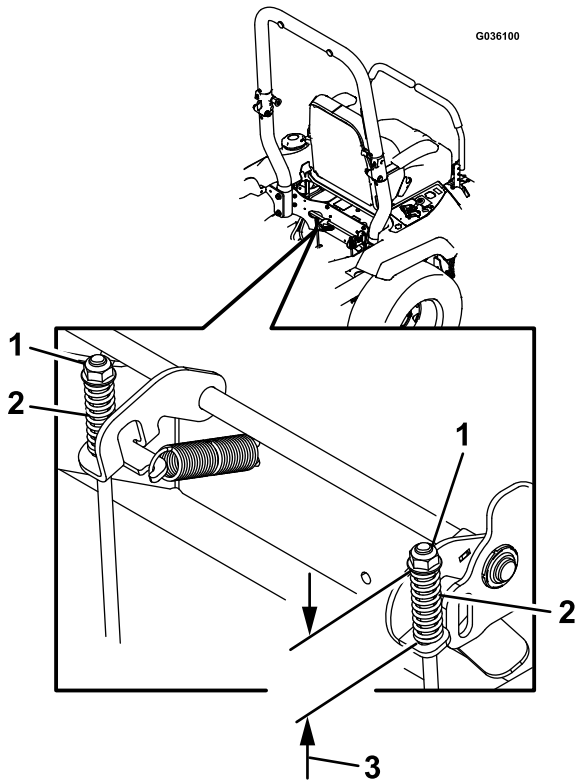

Figure 90
7. Check both spring lengths as shown in Figure 90. If an adjustment is necessary, turn the top nut clockwise to shorten the spring and counterclockwise to lengthen it.